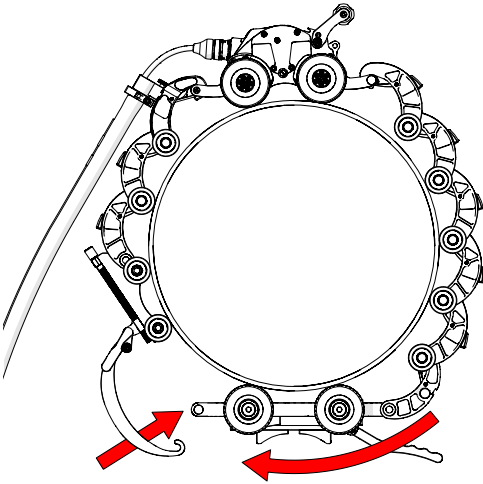

Fig. 73 - Hook buckle to QuickLink
9. Bring the QuickLink buckle arm towards the source cart. Hook the QuickLink buckle's arm to the axle of the source cart (Fig. 73).